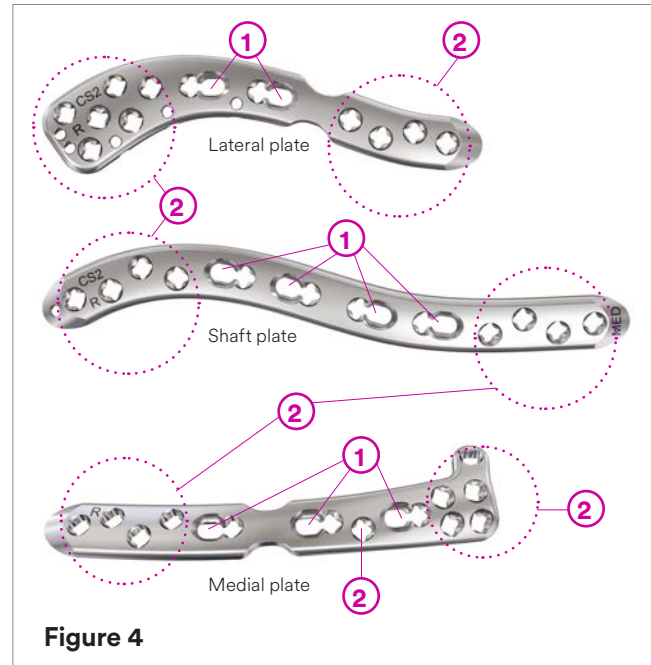

Figure 4
Cortex screws can be used in the non-threaded DCU portion of the VA Combi hole (1) (Figure 4) in the neutral/centered position or in the eccentric position for compression. Cortex screws can be used in VA locking hole (2) in the nominal position only. If a cortex screw is placed in a VA locking hole, it cannot be placed in an eccentric position and the screw head will not sit flush with the plate surface.
VA locking screws can be used in VA locking holes (2) (Figure 4) at either a nominal angle or at variable angles (Figure 5). VA locking screws can also be used in the threaded portion of VA Combi holes. VA locking screws should not be used in the non-threaded DCU portion of VA Combi holes.
Metaphyseal screws provide compression with a low-profile screw head that sits flush with the plate. Metaphyseal screws have the same screw shaft thread as the VA locking screws and can be used in VA locking holes (2) (Figure 4) and the threaded portion of VA Combi holes (1) at the nominal angle. They cannot be used in the non-threaded DCU portion of VA Combi holes.